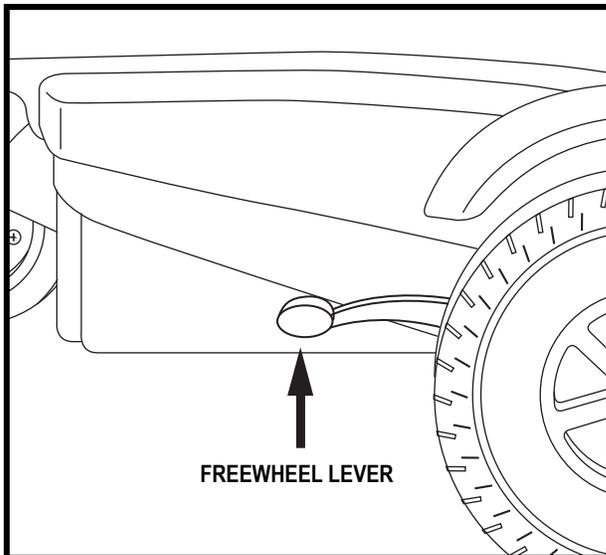

Figure 9. Drive Mode (Drive Engaged)
2. Pull both levers upward to engage the drive motors (drive mode). See figure 9.
2. Ensure the power chair is in drive mode. See figure 9.